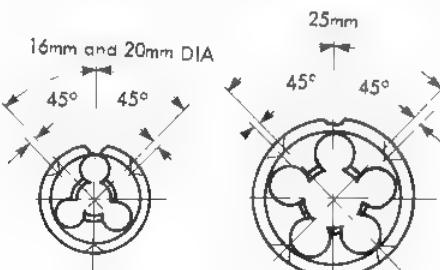

Fig. 66 The modern solid pattern button die.
**The Button Die.** This is the universal style these days, except for threading large diameter pipes. There are two types. The SOLID die is shown in Fig. 66. For the smaller sizes, when the die is less than 25mm or 1in. dia. there are either three or four cutting edges, but for larger dies of 25mm (1in.) O.D. upwards there may be five or more. These dies cannot be adjusted for wear, and so long as they are sharp will cut to size. However, for jobbing and amateur